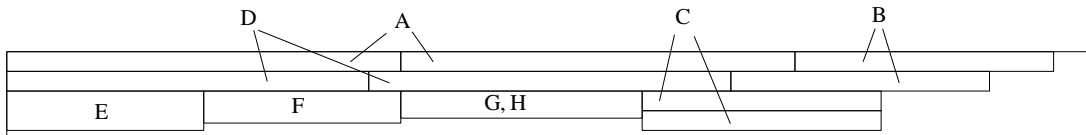

Figure 3. Layout of the main chair parts. The letters refer to codes in the cutting list.
The parts for the chair, apart from the seat frame and the laminations for the rockers and back slats, can all be cut from a 45 x 175 x 2200 mm board of primary hardwood such as jarrah, or walnut (**Figure 3**). The twelve 6.5 mm thick laminations for the rockers can be ripped from a 45 x 150 x 1200 mm board of matching hardwood. The twelve 4 mm thick laminations for the back slats, and the four mitre keys, can be ripped from a 22 x 150 x 1500 board of contrasting hardwood, such as maple.
The easiest way to cut the leg and arm mitres is to use a sliding mitre saw, with a 5° wedge clamped between the workpiece and the fence (**Photo 2**). Otherwise, you can make a simple triangular plywood jig (**Figure 3**), which is clamped to a mitre gauge on the table saw (**Photo 3**). The mitres could also be cut with a back-saw, and planed to the mark-out lines. The mitres on the rockers need to be planed by hand anyway, since there is no way of cutting them accurately with machinery, short of building an elaborate specialized jig.
* The code letters for the parts refer to Figure 3.